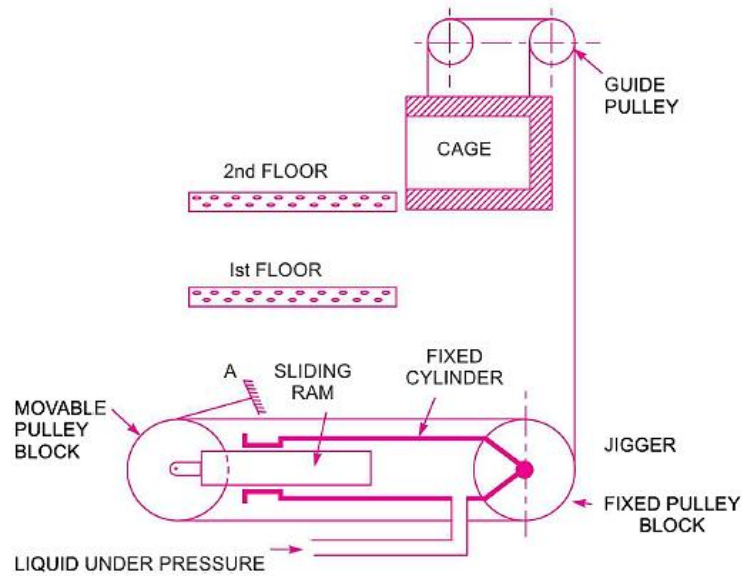

Fig.10.6 –Hydraulic Lift
▶ **Cage** is suspended from a wire rope using guide pulleys as shown in Fig.10.6.